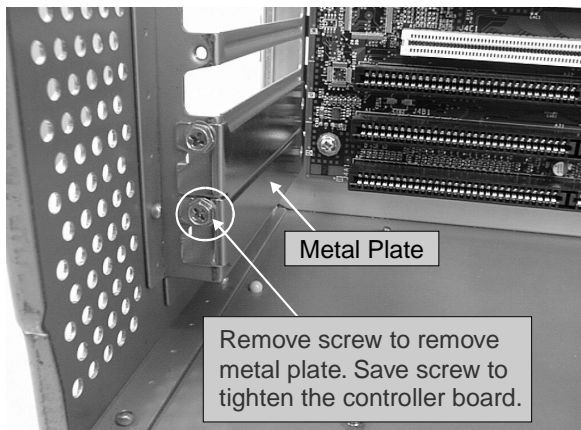

Figure 2-17. Remove the Metal Plate
2. Remove the metal cover plate from the slot's access port (usually at the back of the cabinet) as shown in Figure 2-17. Save the retaining screw.
6. Use the retaining screw (see Figure 2-17) to secure the controller board by its mounting bracket. The controller board will go into the space created when you removed the metal plate.